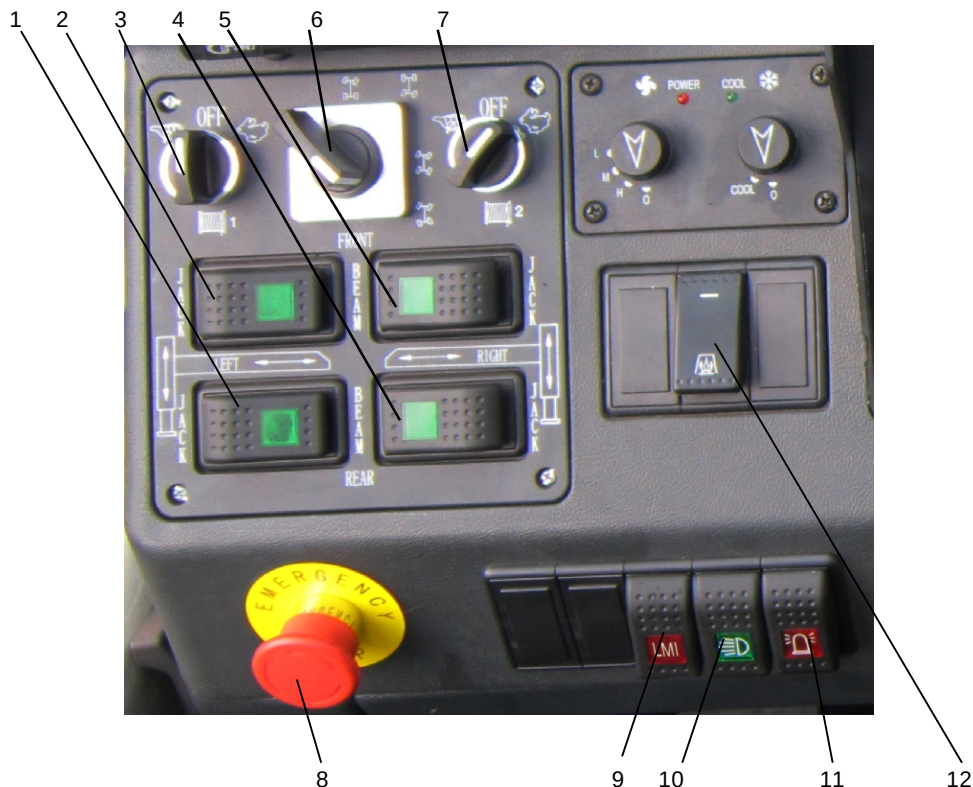

Figure 06 – 2 Left dash
1. **LEFT REAR OUTRIGGER SWITCH** – Used to select outrigger cylinder (jack or beam) to be extended / retracted with **OUTRIGGER EXTEND / RETRACT MASTER SWITCH (21)** (See Figure 06 – 1).
2. **LEFT FRONT OUTRIGGER SWITCH** – Used to select outrigger cylinder (jack or beam) to be extended / retracted with **OUTRIGGER EXTEND / RETRACT MASTER SWITCH (21)** (See Figure 06 – 1).
4. **RIGHT REAR OUTRIGGER SWITCH** – Used to select outrigger cylinder (jack or beam) to be extended / retracted with **OUTRIGGER EXTEND / RETRACT MASTER SWITCH (21)** (See Figure 06 – 1).